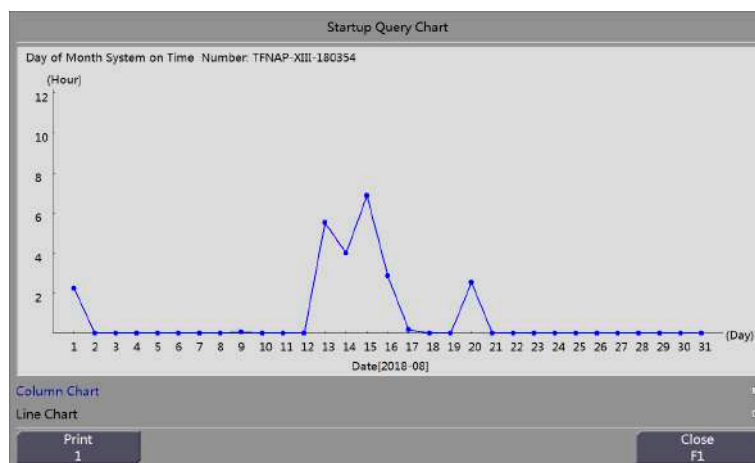
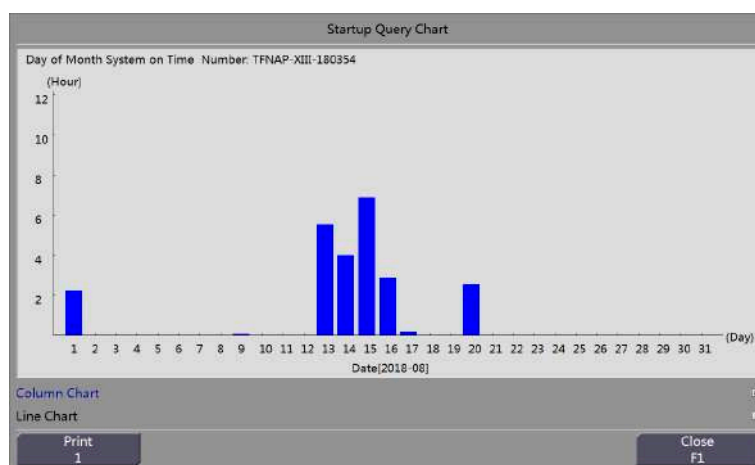

Figure 15-5 Startup Information Displayed in a Line Chart
Figure 15-6 Startup Information Displayed in a Column Chart
Step 5 The power on logs can be displayed in a line chart or column chart to provide an intuitive view of the running status of the equipment, as shown in Figure 15-5 and Figure 15-6.